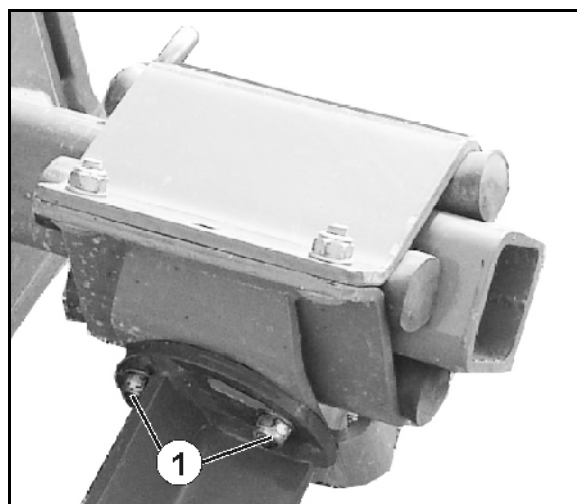

Fig. 49
2. Undo three screw unions (Fig. 49/1).